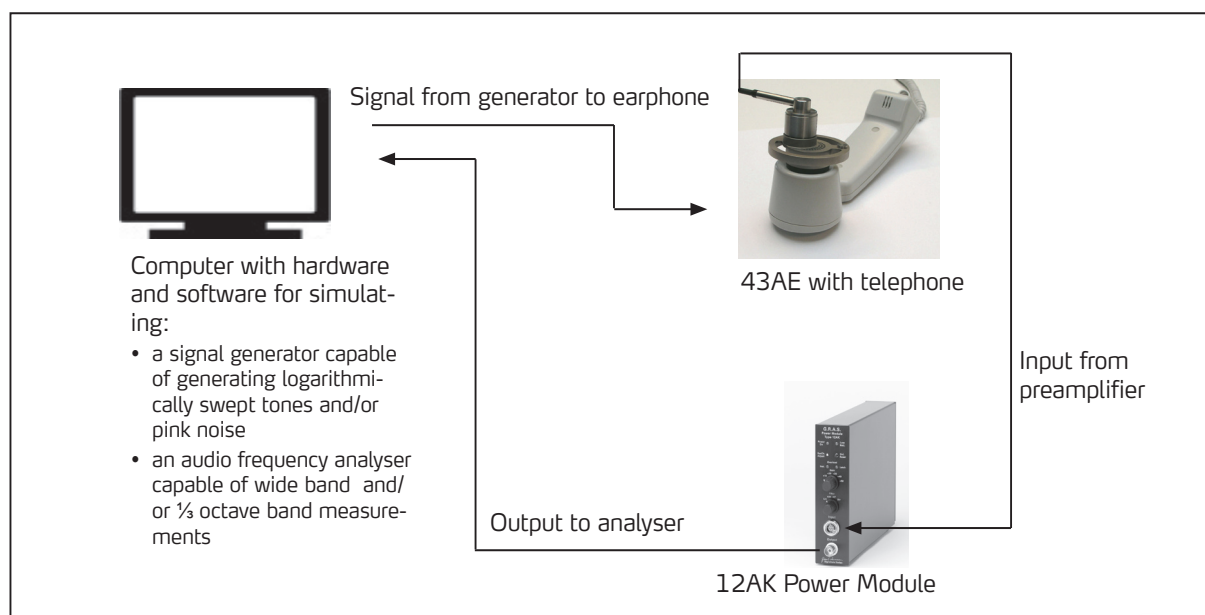

Fig. 3. Block diagram of a complete set-up for making tests
Items 3 and 4 could be combined in the same unit, e.g. a computer fitted with suitable hardware and software for A/D and D/A conversions in order to simulate both a signal generator and an analyser. Fig. 3 shows a block diagram of a possible set-up for making tests.
- 1) Setting up the Ear Simulator, e.g. as shown in Fig. 3